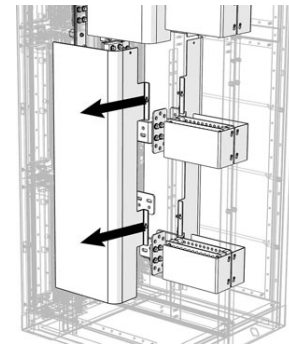

Figure 5. Input Bus Plastic Safety Shields
- Step 1. Remove the input bus plastic safety covers (see Figure 5 on Page 9).
- Step 1. Remove the input bus plastic safety covers (see Figure 5 on Page 5).